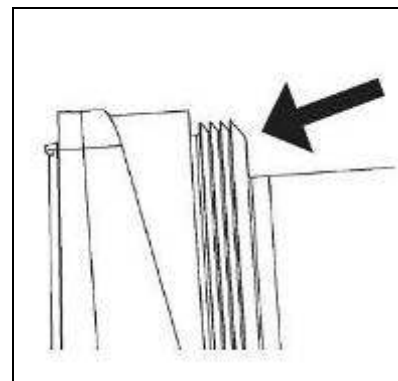

Fig. 17
- Mount the bowl seal (T) making sure it faces the right direction (fig.17).
- Assemble the scraper auger (U), making sure the head is perfectly engages with the driving shaft.
- Secure all the parts into place by screwing the bolt (S) in a counter clockwise direction.